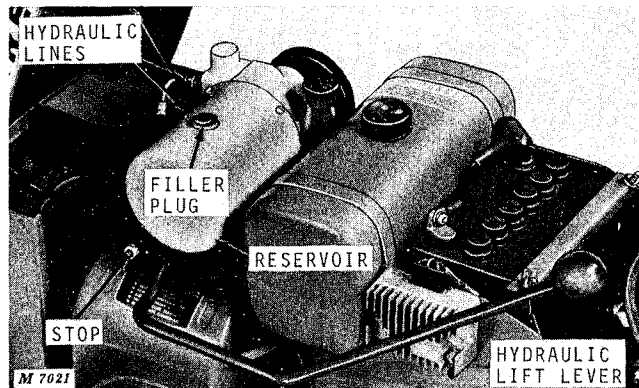

Fig. 23-Adjusting Lift Lever
1. Loosen jam nuts on outer stop, Figure 23, and move lift lever to full raised position.